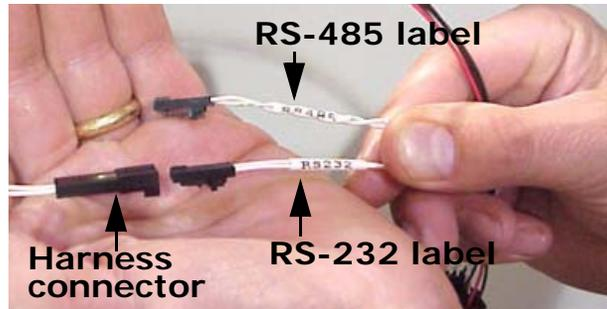

Figure 16 Configuring protocol, part 1 (forearm)
2. Connect the lead for the desired system protocol (RS-232 or RS-485) to the harness connector in the forearm (see Figure 16).